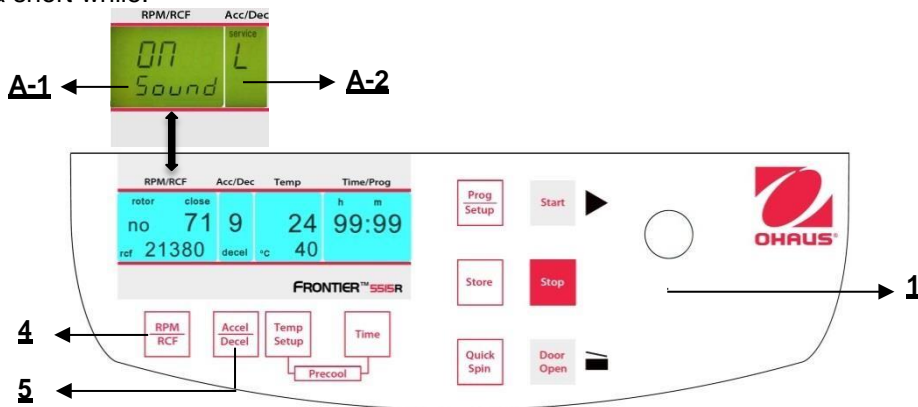

Figure. 33
Proceed as described under point 4.1.2 to enter this program mode and then press the key "Accel/Decel" (5). In the display "Acc/Decel" (A-2) the word "Service" flashes. Now select the letter "L" with the adjusting knob (1). As a result, the words "On Sound" appears in the display "RPM | RCF" (4). If you press the key "RPM | RCF" (4) now, the word "On" flashes and you can switch off the sound with the adjusting knob (1) (See figure 33).